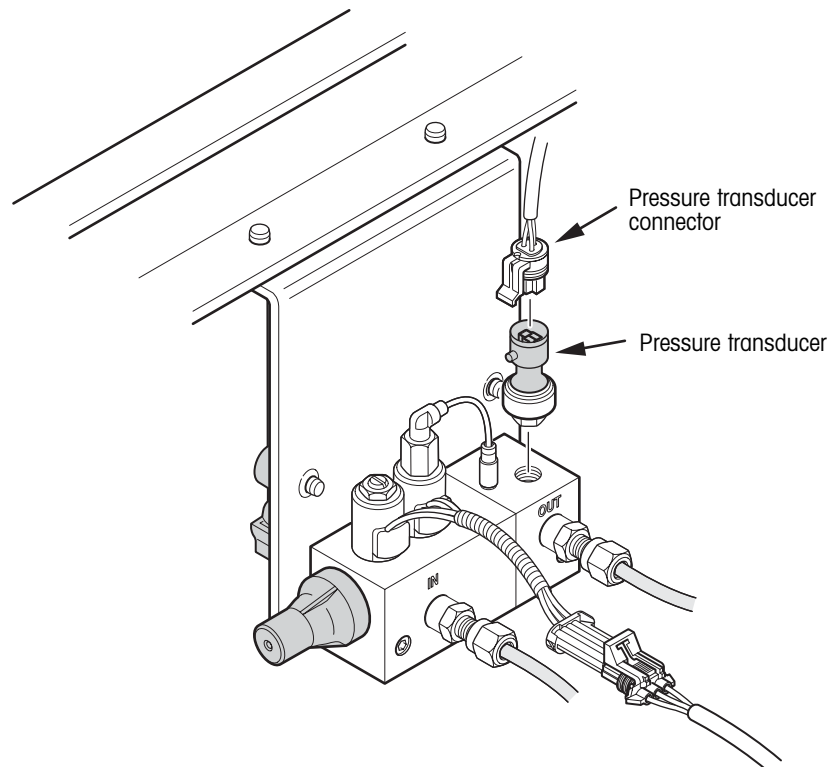

Figure 33. Pressure transducer replacement
3. Disconnect the pressure transducer connector (figure 33).